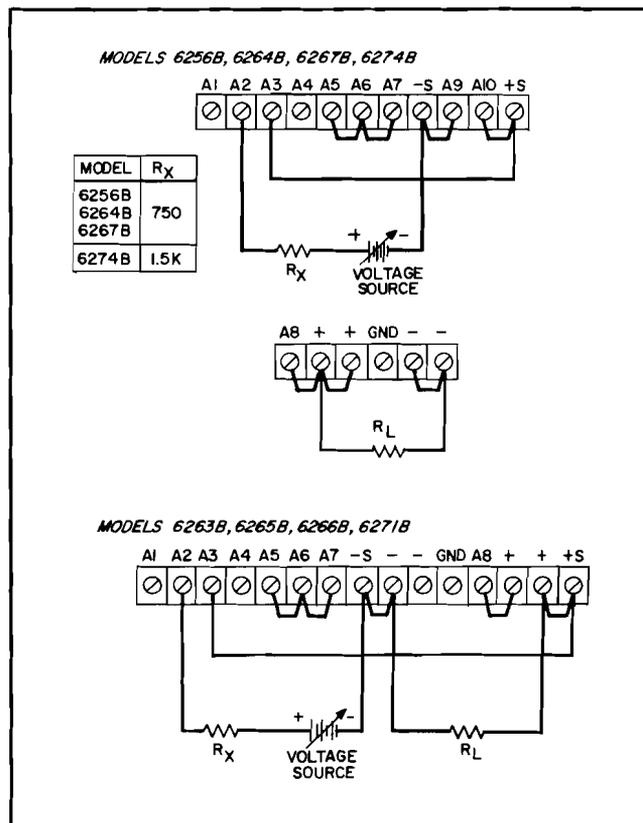

Figure 3-5. Voltage Programming of Output Voltage (Unity Gain)
**3-39 Constant Voltage Output, Voltage Input.** The rear panel connections shown in Figure 3-5 allow the output voltage to be varied by using an external voltage source to program the supply. In this mode, the output voltage varies in a 1 to 1 ratio with the programming voltage. The load on the programming voltage source is less than 20 microamperes. Impedance matching resistor RX is required to maintain the temperature coefficient and stability specifications of the supply.